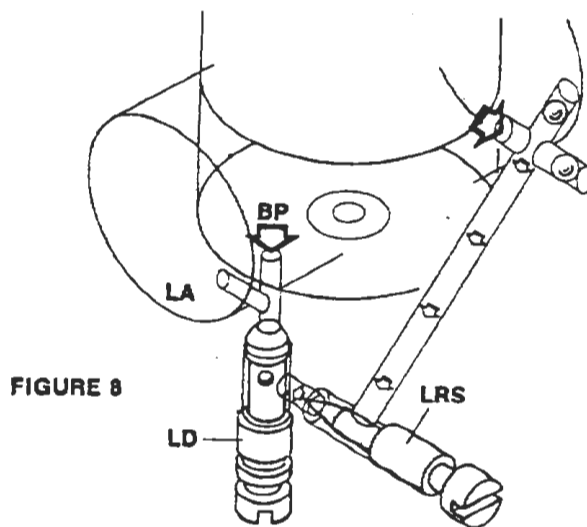

FIGURE 8
IDLE SYSTEM (Slide Carburettor) With the air slide nearly closed, vacuum, at the main fuel outlet is insufficient to draw fuel up from the main metering tube. Fuel and air to supplement the small volume of air getting under the slide for idling is then supplied through the auxiliary idle system (Figure 8) which consists of IDLE JET (LD), IDLE AIR SCREW (LRS), OUTLET BORE (LA) and BY PASS (BP).